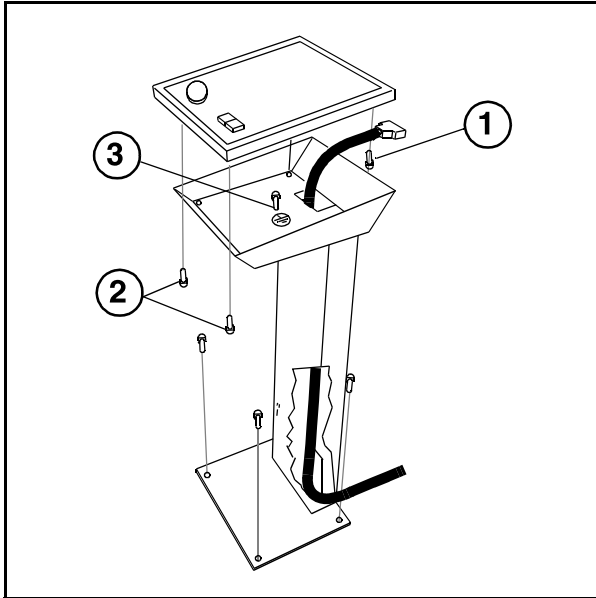

Fig. 1: Control console
- Fasten the 6 mm² protective ground wire to the grounding stud (3/Fig. 1 / p. 8).
- **At the back** of the control console, thread in the 2 retaining screws (1/Fig. 1 / p. 8) by hand at the top.
- Insert the control console from **above** in the console base and insert and tighten the 2 cylinder head screws below (2/Fig. 1 / p. 8).